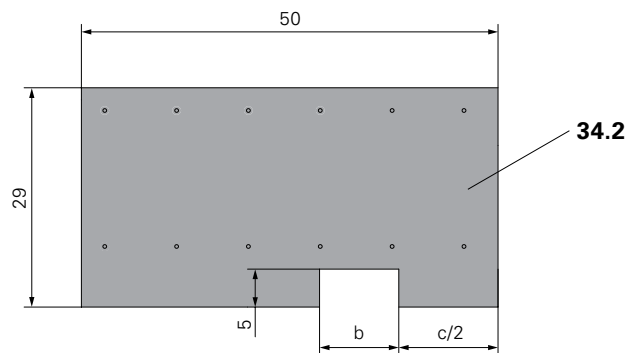

Fig. C1.04
See Fig. C1.04 and C1.06
1. Cut out two Head Pieces from one piece of formlining (**34.2**) with the dimensions according to Fig. C1.04.